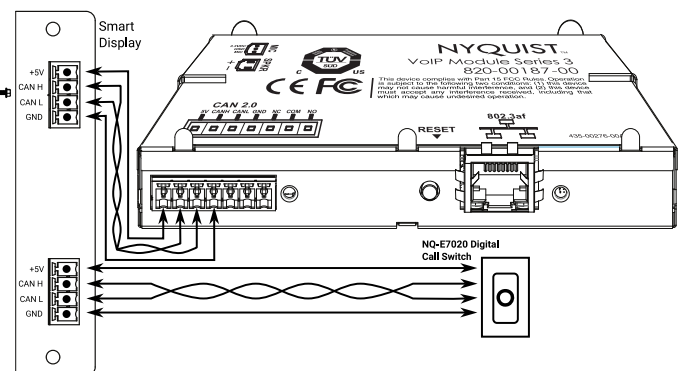

Figure 8: CAN bus connector with multiple digital call switches
3. When applicable, use the pluggable CAN bus connector to attach one or more NQ-E7020-G2 Digital Call Switches to the Nyquist VoIP Module 820-00187-00 via the Nyquist VoIP Module's smart display connectors, as shown in **Figure 8**.